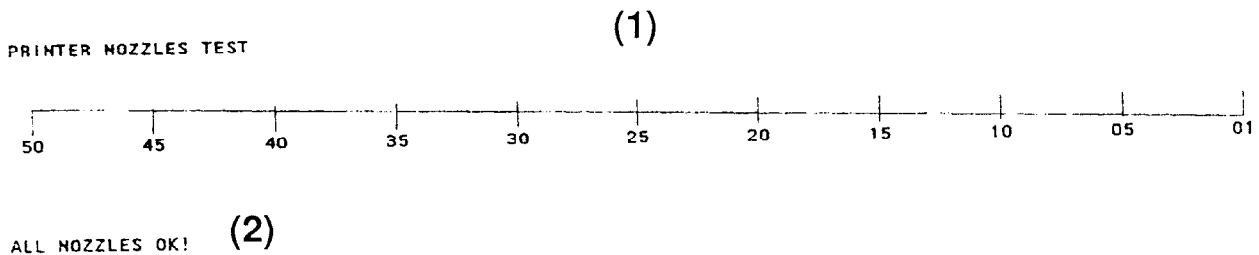

Fig. 6-3
d) Make sure that there is paper in the ASF, and then press $\diamond$ ; if you have installed a monochrome print head , the following chart is printed out (see fig. 6-3):